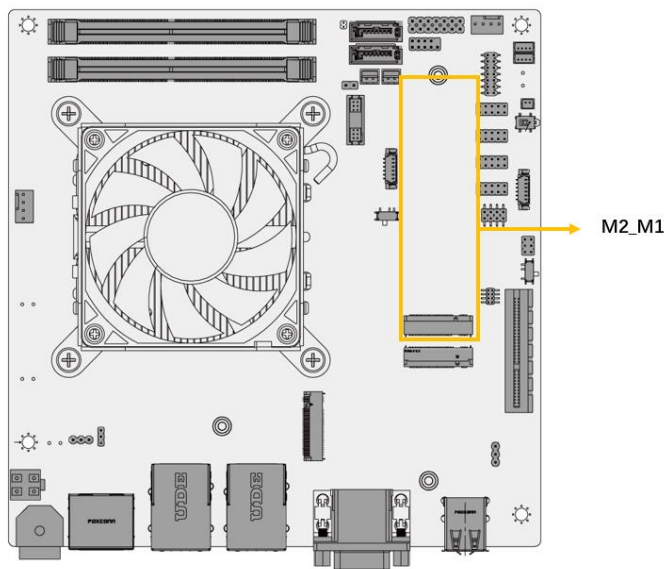

Figure 3-17: M.2 M-key Slot Location
- CN Location:** See Figure 3-17